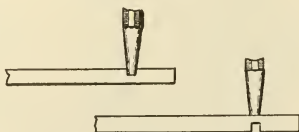
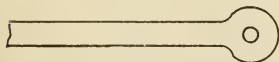

FIG. 190. — STEPS IN PUNCHING THE EYE.
FIG. 191. — EYE PUNCHED IN END.
3. **Punching eye.** — With the punch placed in the center of the flattened head, punch one half through the hot iron (Fig. 190). Reverse the iron and punch from the other side. Drive the punch through from each side, enlarging the hole. (See Fig. 191.) The edges of the hole should be rounded on the horn of the